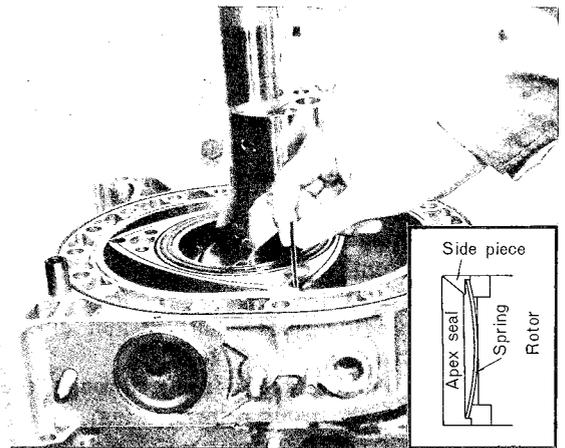

Fig. 1-65 Installing apex seal spring
1. Insert the each apex seal spring confirming the spring direction as shown in Fig. 1-65.